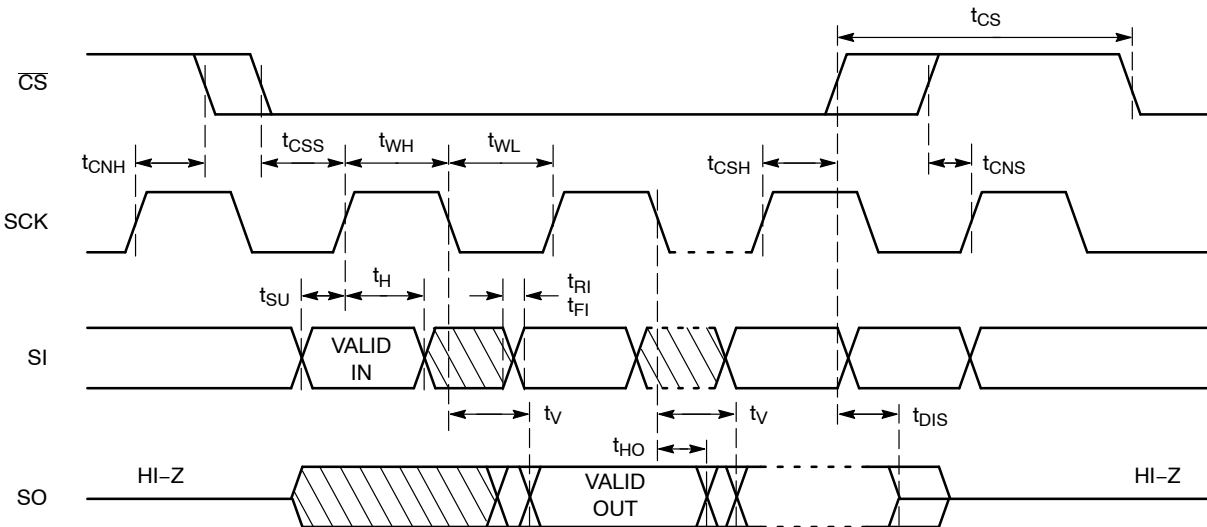

Figure 2. Synchronous Data Timing
8. t_{WC} is the time from the rising edge of CS after a valid write sequence to the end of the internal write cycle.9. **All Chip Select (CS) timing parameters are defined relative to the positive clock edge (Figure 2). t_{CSH} timing specification is valid for die revision D and higher. The die revision D is identified by letter “D” or a dedicated marking code on top of the package. For previous product revision (Rev.C) the t_{CSH} is defined relative to the negative clock edge.****Table 7. POWER-UP TIMING** (Notes 7, 10)
After a high to low transition on the \overline{CS} input pin, the CAT25128 will accept any one of the six instruction op-codes listed in Table 10 and will ignore all other possible 8-bit combinations. The communication protocol follows the timing from Figure 2.